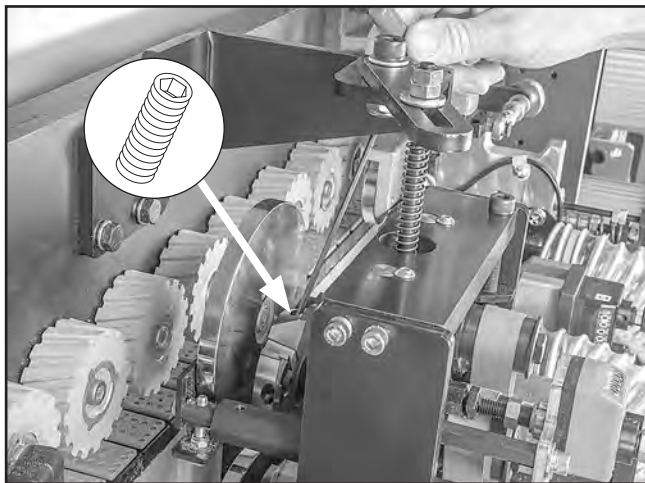

Figure 120. Loosening flush trimmer set screw (upper cutterhead shown).
8. Loosen set screw, then carefully remove trimmer insert and block as shown in **Figure 120**.